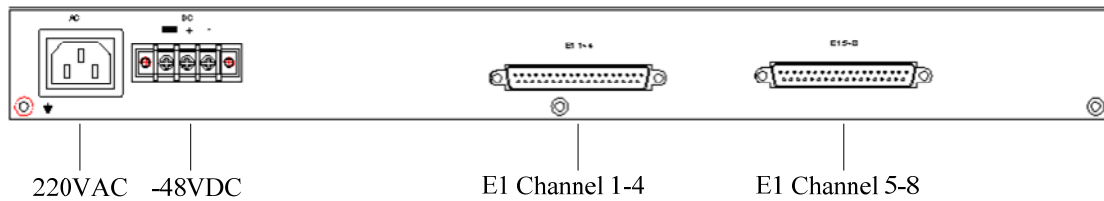

Figure 8: Back panel
- Make 120Ω E1 cable. If you use 120Ω interface, take out RJ45 plug, and fix it on twister-pair cable (Figure 8). **Table 1** is the detailed definition of 120Ω connector.